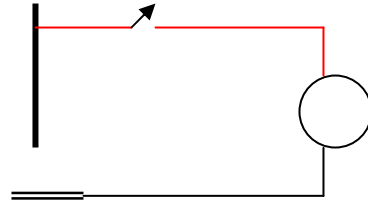

Fig.1 – Lamp control by single switch
- (d) Using suitable diagrams explain how you would carry out a polarity test on the lighting circuit of figure 1, giving typical values you would expect for a good result.